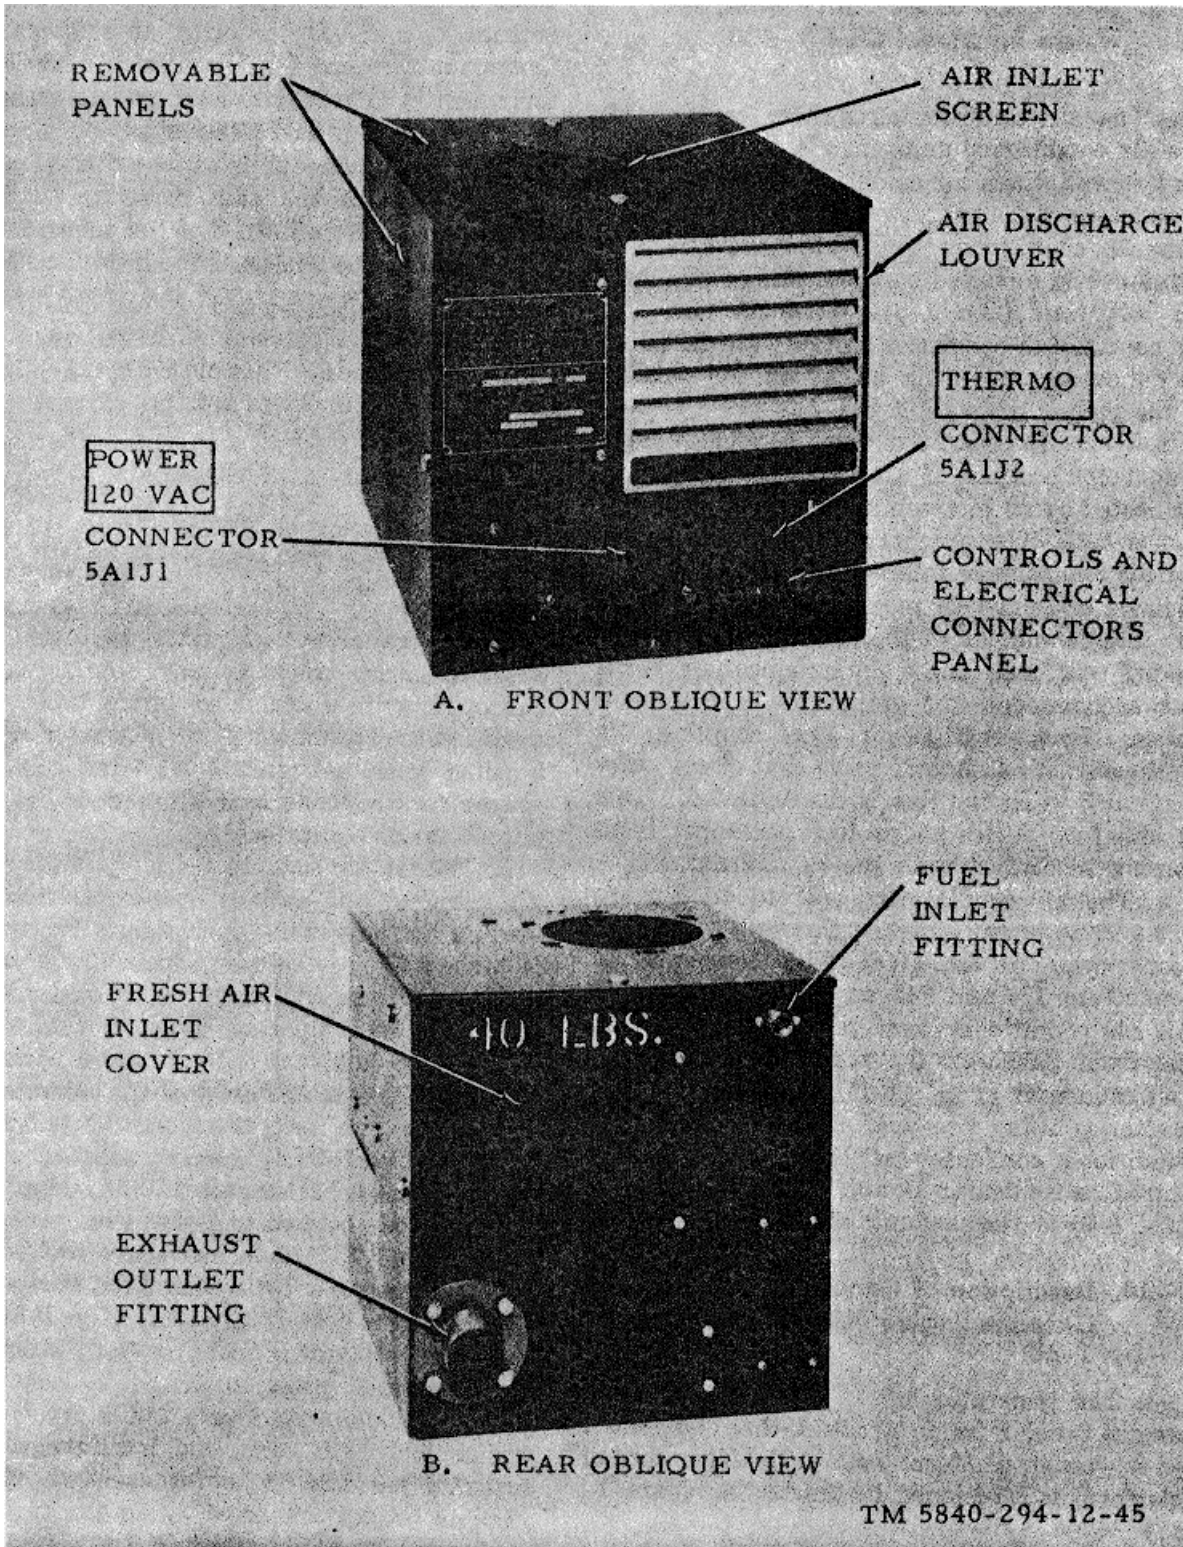

Figure 1-20. Heater, Hunter Model UH-48, type II (heater B).
b. Heater B (fig. 1-20). Heater B is similar to heater A (*a* above). Differences in heater B are described below.